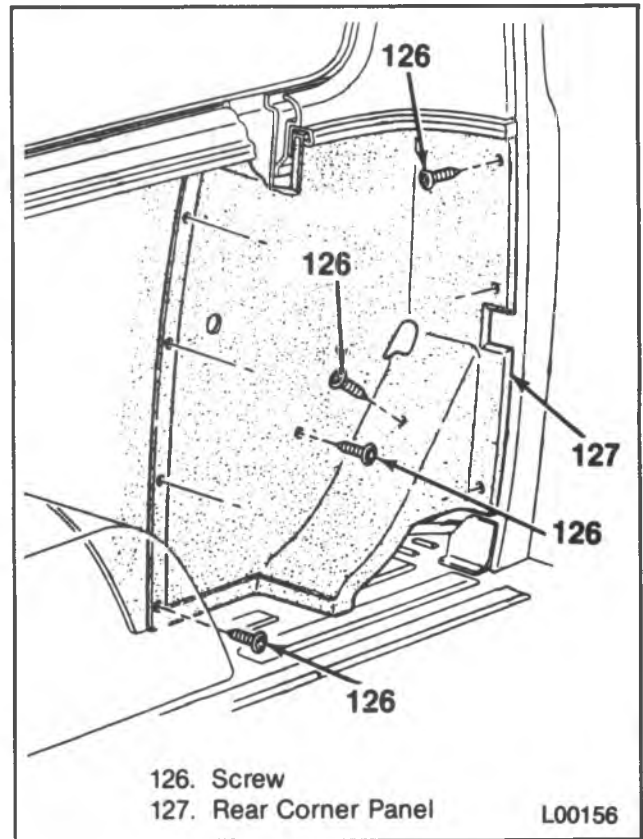

Figure 42 — Rear Corner Panel
14. Body side trim rear corner panel screws and the panel (figure 42).
1. Body side trim rear corner panel and screws (figure 42).